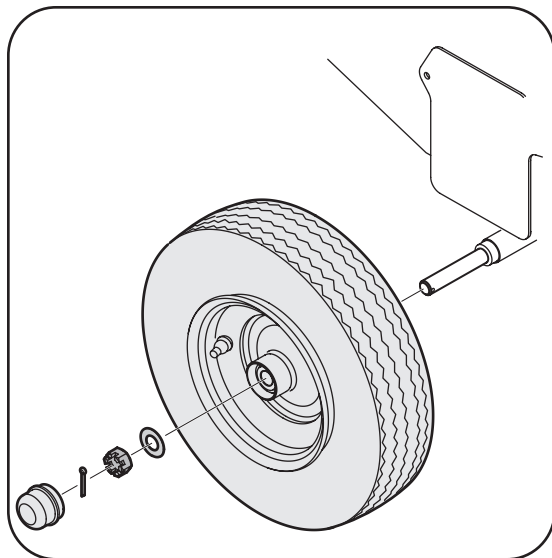

Figure 3-5
3. Remove the cotter pin, hex slotted nut, and flat washer from each axle. See Figure 3-5.
8. Place hub caps in position on wheels and tap onto axle with a soft hammer or mallet. See Figure 3-5.